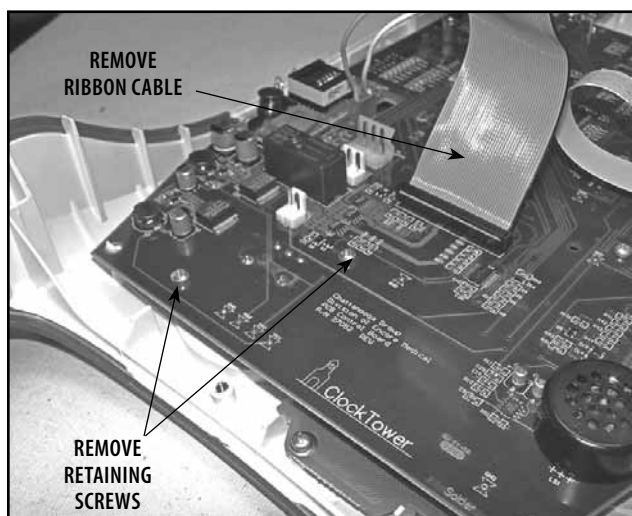

FIGURE 6.29
4. Remove the Control Board Ribbon Cable and the two Control Board Assembly Retaining Screws. See Figure 6.29.